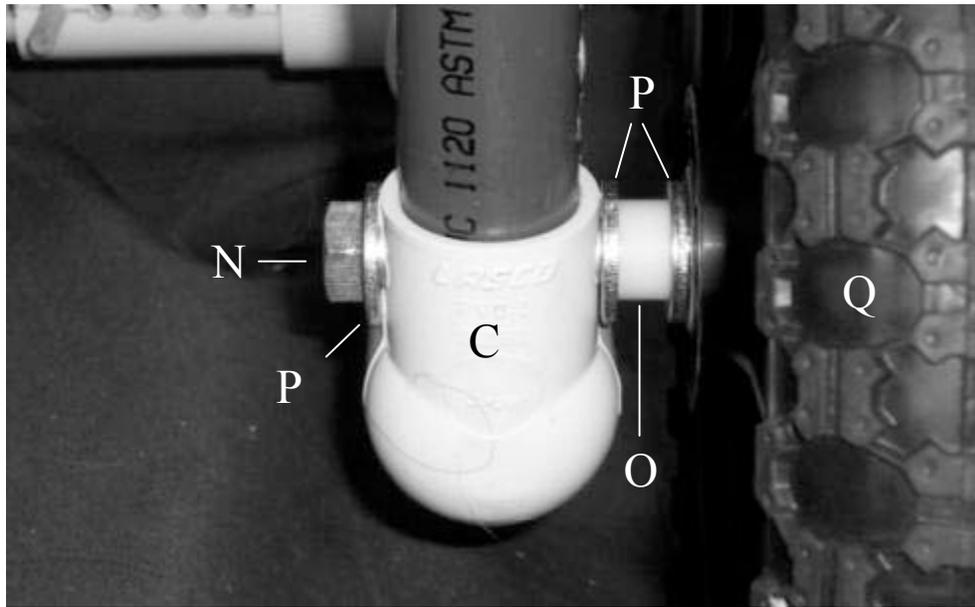

FIGURE 29 - Axle/Wheel Assembly.
**Step 2.** Place washer on 4-1/2 in bolt to serve as wheel axle. Insert into 1/2 in diameter hole through Part C so that the head of the bolt (axle) is located on the inside of the frame structure. Place another washer onto the axle adjacent to the outboard side of Part C, followed by the nylon spacer and another washer. Place the wheel on the axle followed by the 1/2 in bolt nut. See Figure 29 for complete wheel assembly. Use the adjustable wrench to tighten the nut onto the axle. Repeat these steps for the other wheel assembly.